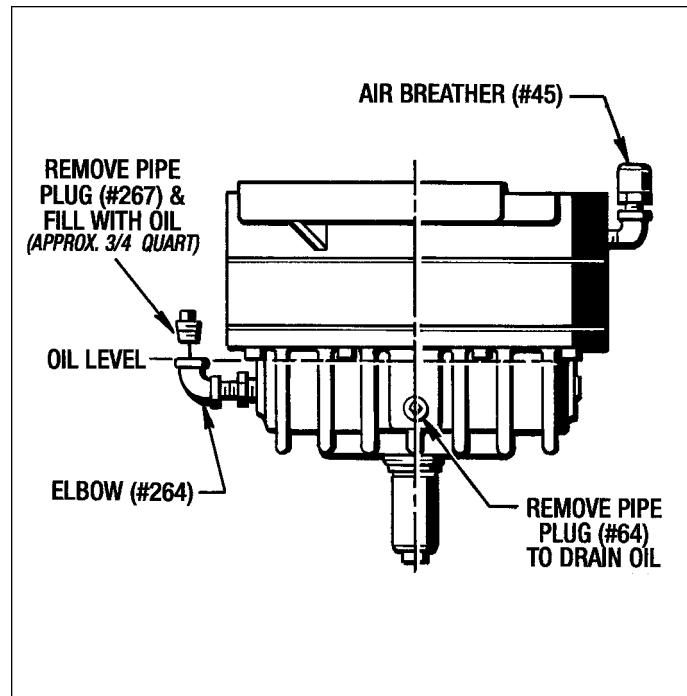

Figure 4.2 - Lubrication - Vertical Down Brake (MB-210-496)
2. Vertical Down Brake (MB-210-496) - *Figure 4.2*
(See *Figure 4.2*)
2. Remove the Pipe Plug (#267) from the Elbow (#264) to fill the brake with fresh oil. Fill until the oil is at the top of the Elbow (#264) as shown in *Figure 4.2*. Oil capacity is approx. 3/4 Quart. Replace the plug after filling.